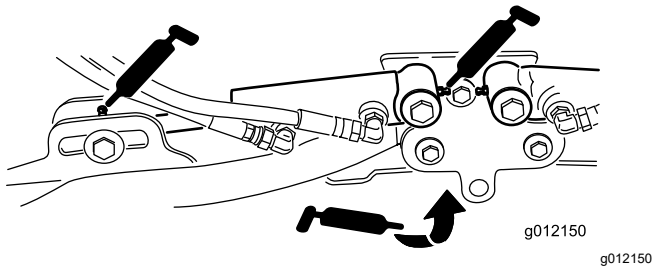

Figure 74
- Cutting-unit lift-arm cylinders (2 each) (Figure 74)
- Lift-arm pivots (1 each) (Figure 74)